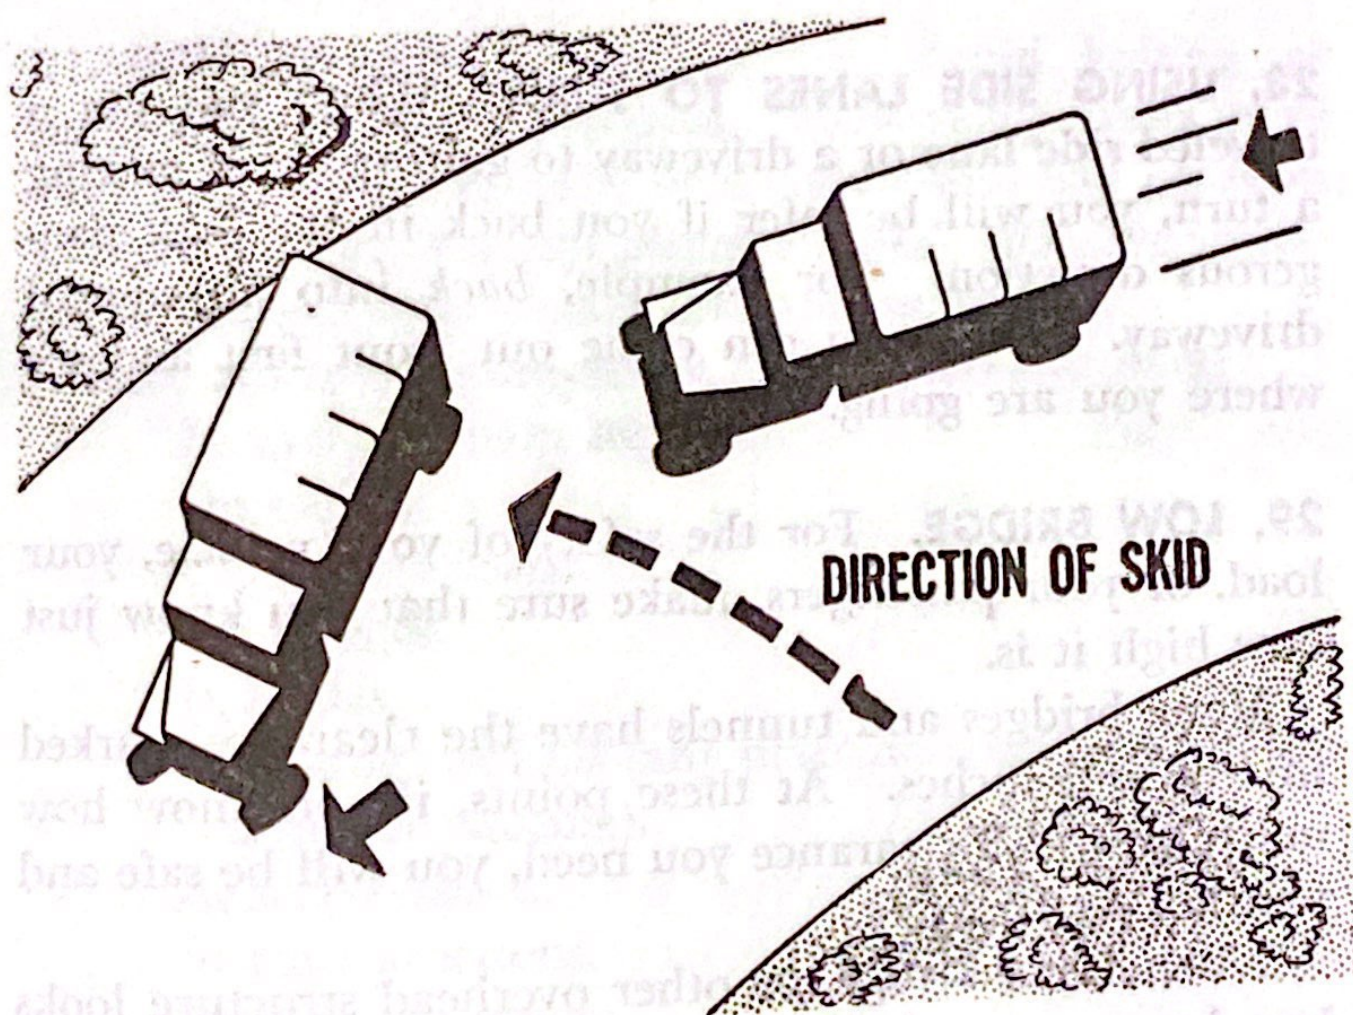

Figure 12. Turn your front wheels into the skid.
26. STOPPING A SKID. If your vehicle starts skidding in spite of all precautions, turn the front wheels in the same direction as the skid and slow down gradually, as shown in figure 12. The skid will be worse if you apply